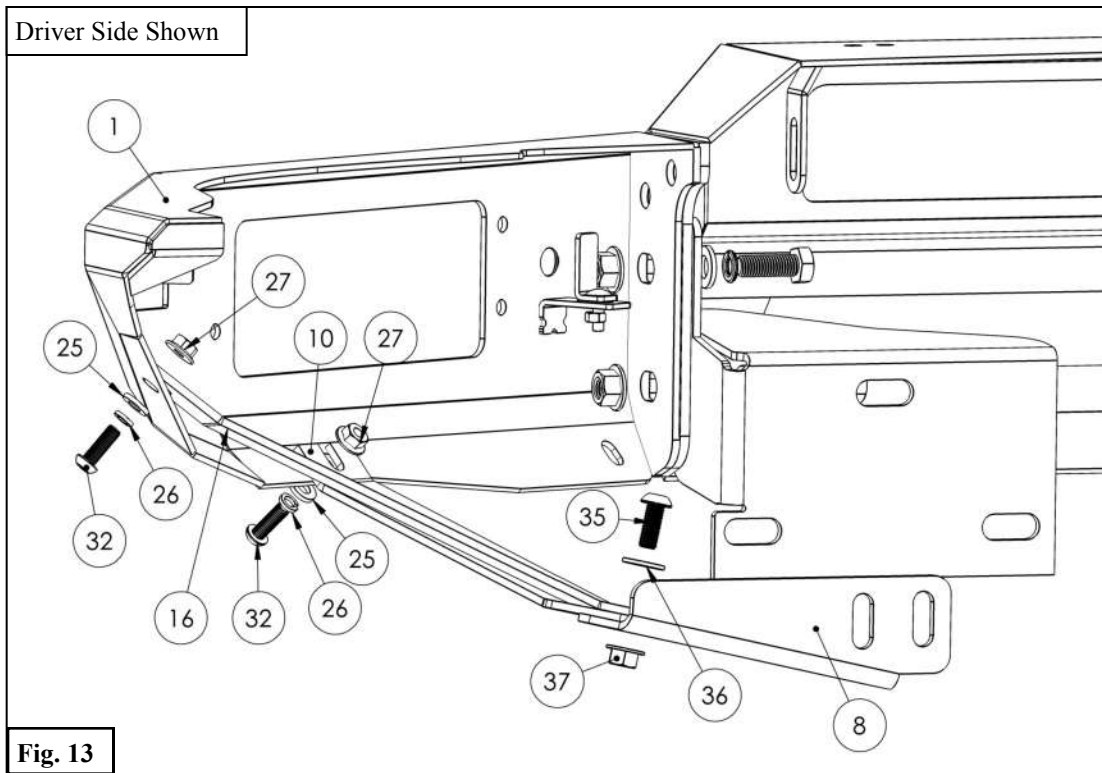

**Fig. 11**
8. Loosely attach the preassembled bumper to the vehicle frame using the Factory Hardware. See **Figure 11**.